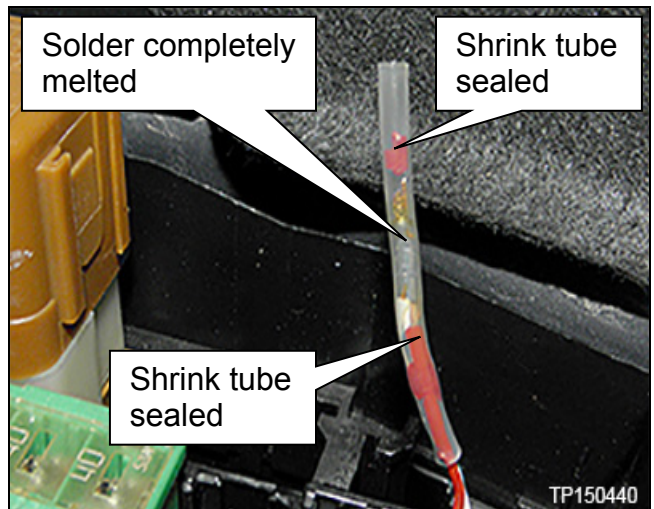

Figure 10
- Figure 10 shows completed solder connection.